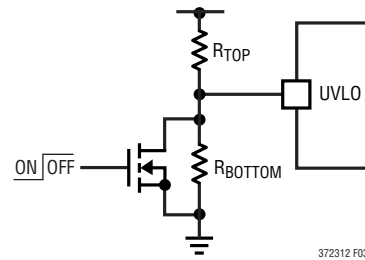

Figure 3. System UVLO Setup
UVLO. The amount of DC feed hysteresis provided by this current is: $10\mu\text{A} \cdot R_{\text{TOP}}$, (Figure 3). The system UVLO threshold is: $5\text{V} \cdot \{(R_{\text{TOP}} + R_{\text{BOTTOM}})/R_{\text{BOTTOM}}\}$. If the voltage applied to UVLO is present and greater than 5V prior to the V_{CC} UVLO circuitry activation, then the internal UVLO logic will prevent output switching until the following three conditions are met: (1) V_{CC} UVLO is enabled, (2) V_{REF} is in regulation and (3) UVLO pin is greater than 5V.
UVLO can also be used to enable and disable the power converter. An open drain transistor connected to UVLO as shown in Figure 3 provides this capability.